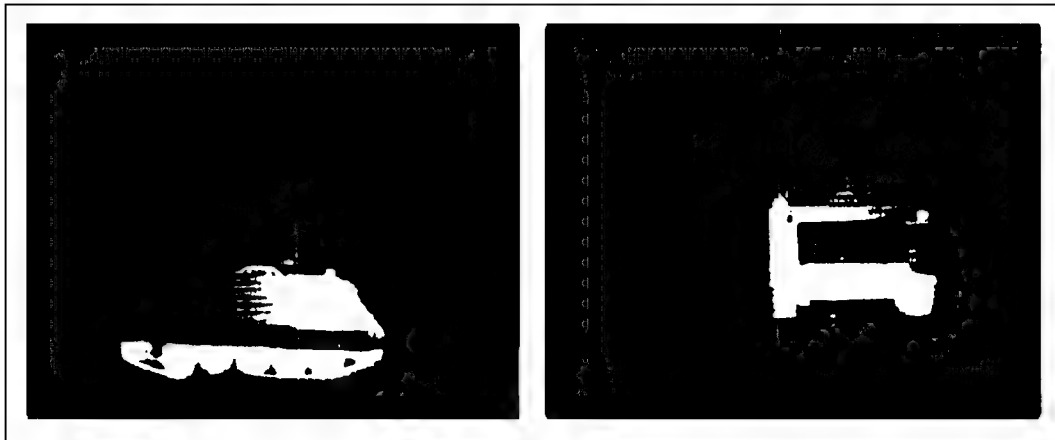

Figure I-4. M113 armored personnel carrier.
- Figure I-4. M113 armored personnel carrier (page I-7).